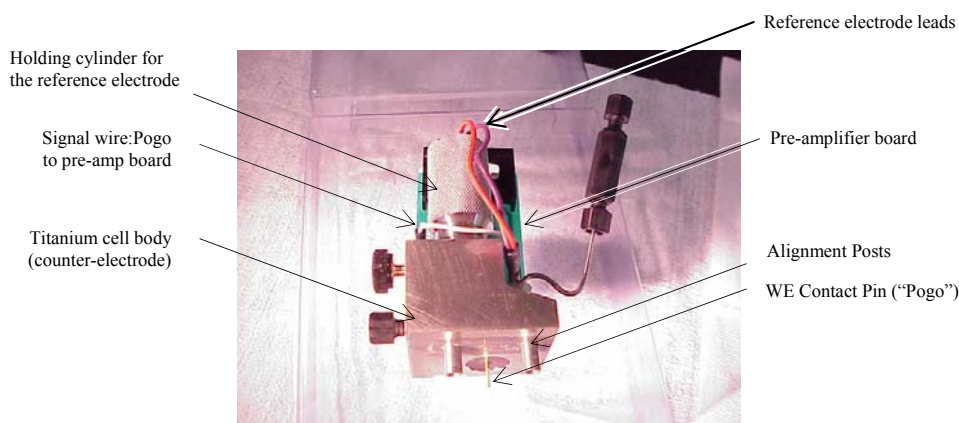
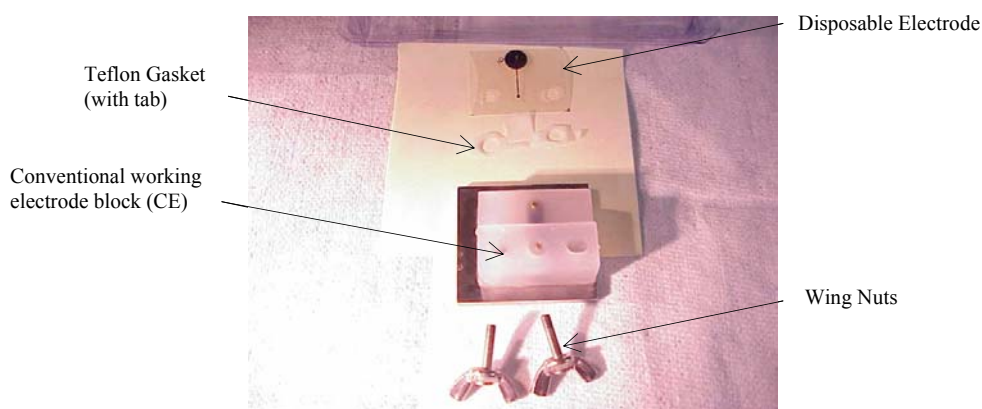

Figure B-1 - The Conventional Side
Figure B-2 – Comparison
Figure B-1 shows an ED40 cell body as it is normally configured for use with conventional electrodes. Figure B-2 shows a conventional silver electrode and two wing nut screws that are the standard components of each ED40 cell. Additionally, Figure B-2 also shows the disposable electrode (DE) and the modified gasket (MG). You will notice the small circle on the DE, which is the working electrode, the larger circle, which is a contact pad and the straight, narrow lead which connects them. The reverse side (the “dull” side) of the polyester sheet does not carry any metal.
If you are installing the disposable electrode into an existing electrochemical cell that previously held a conventional working electrode, please read sections B.2 and B.3 before proceeding. Figures B-3 through B-9 show the proper assembly and show all parts from Figures B-1 and B-2 in a single picture.